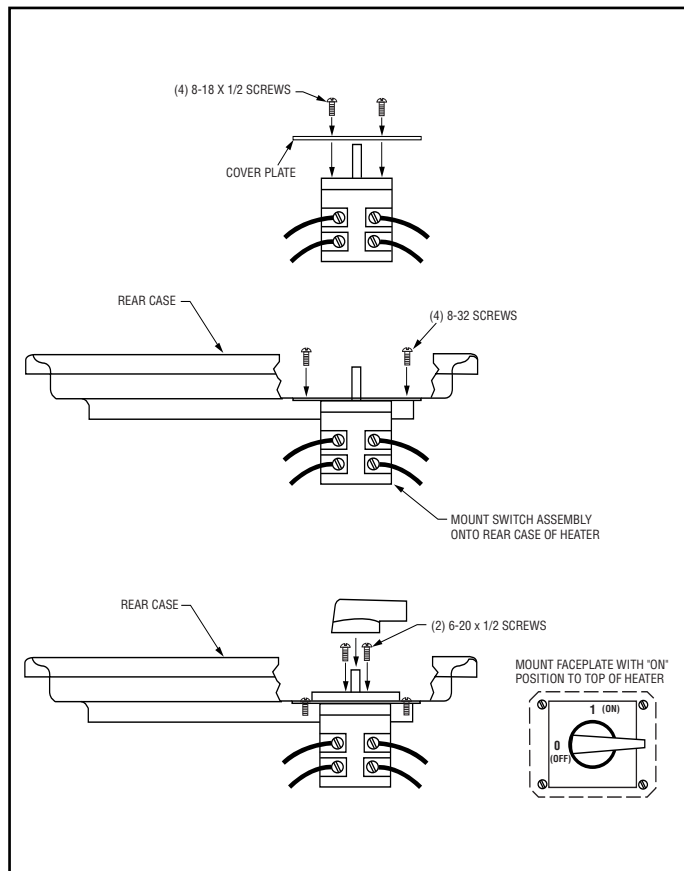

Figure 6 – KDS-1
6. Insert the four self tapping screws into the four holes in the rear panel. They should engage the holes in the mounting plate and then be tightened until they are secure (see Figure 6).